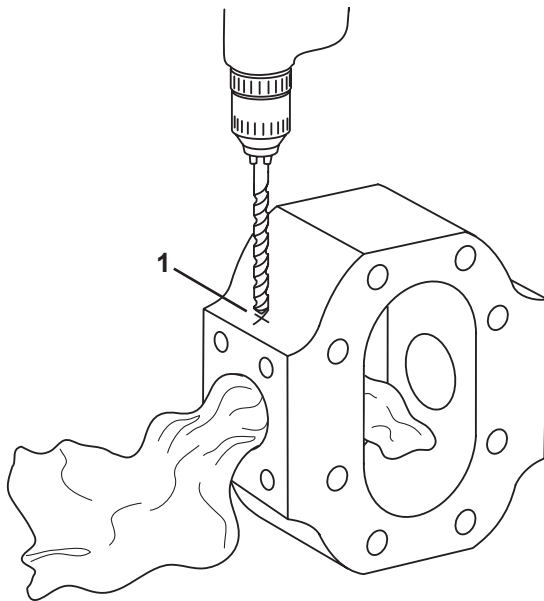

Figure 52
- d. If necessary, drill a 1/8 in. taper NPT port in the pump. Mark the port (Figure 52, Item 1) on the top center section of the pump's inlet side. Remove the inlet block from the pump and place a rag into its oil passage to prevent chips from entering. Also protect the inside of the pump from contamination by placing a rag in the inlet passage.